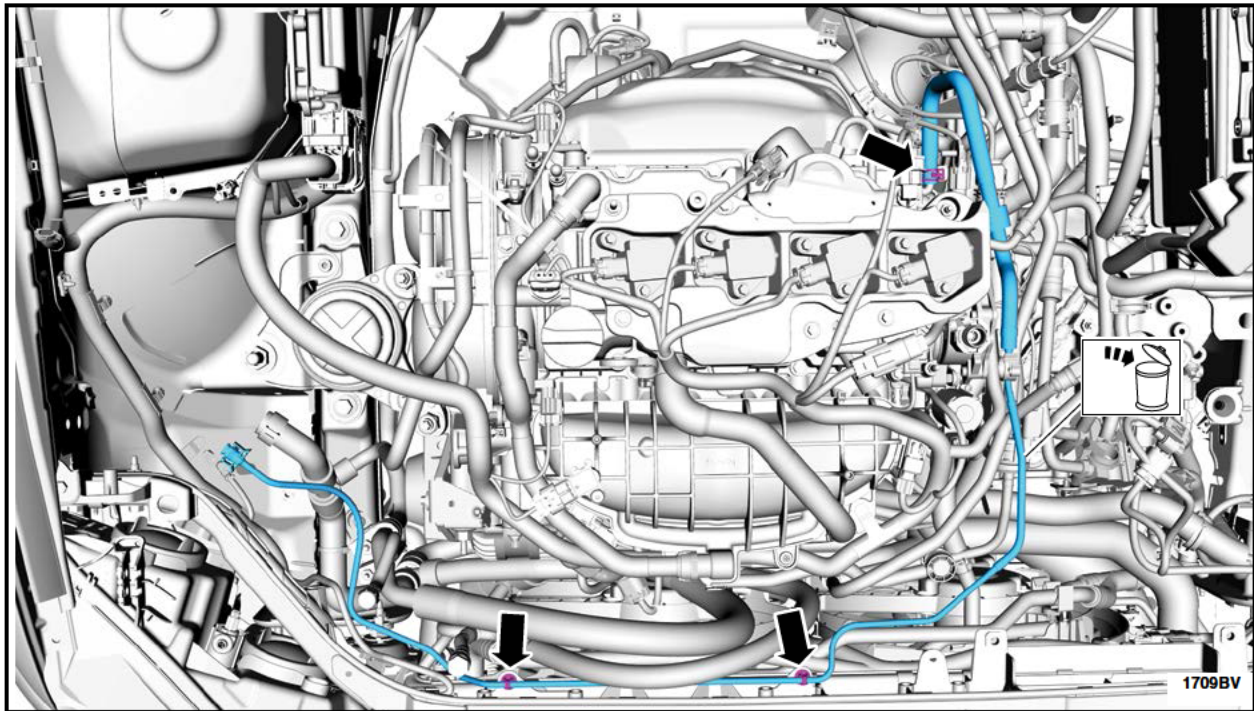

FIGURE I5
4. Detach the retainers, remove and discard the engine degas tube assembly. See Figure I5.